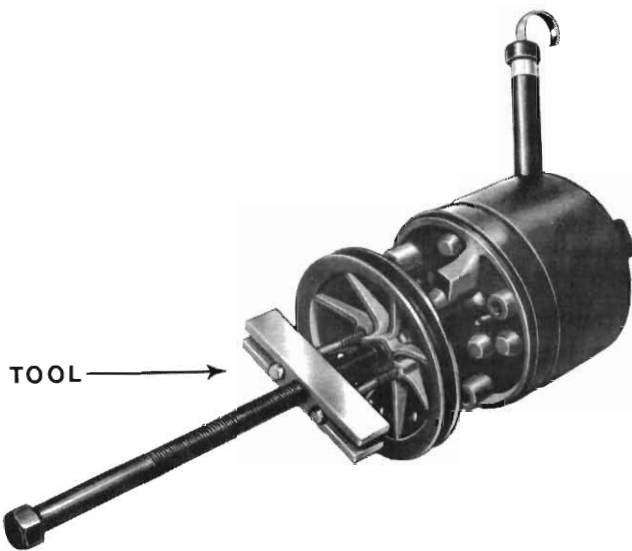

Fig. 2 - Removing the Pump Pulley
(1) Remove pump from engine. Drain reservoir and clean exterior-before servicing.
(2) Remove brackets, reservoir screws, reservoir gaskets and 'O' ring.
(3) Using spacer washers between front bracket and pump, reinstall front bracket for use as holding fixture. Clamp bracket in a vice.
(4) Remove the pump pulley using a suitable universal type of puller and 2 long  $\frac{1}{4}$ " whitworth threaded bolts screwed into the hub. Refer Fig. 2.
(5) Hold the cross-head nut and turn the puller bolt into the pulley to remove the pulley.
(6) Thread Tool E19C25H or similar into the metal portion of the seal to secure a grip.